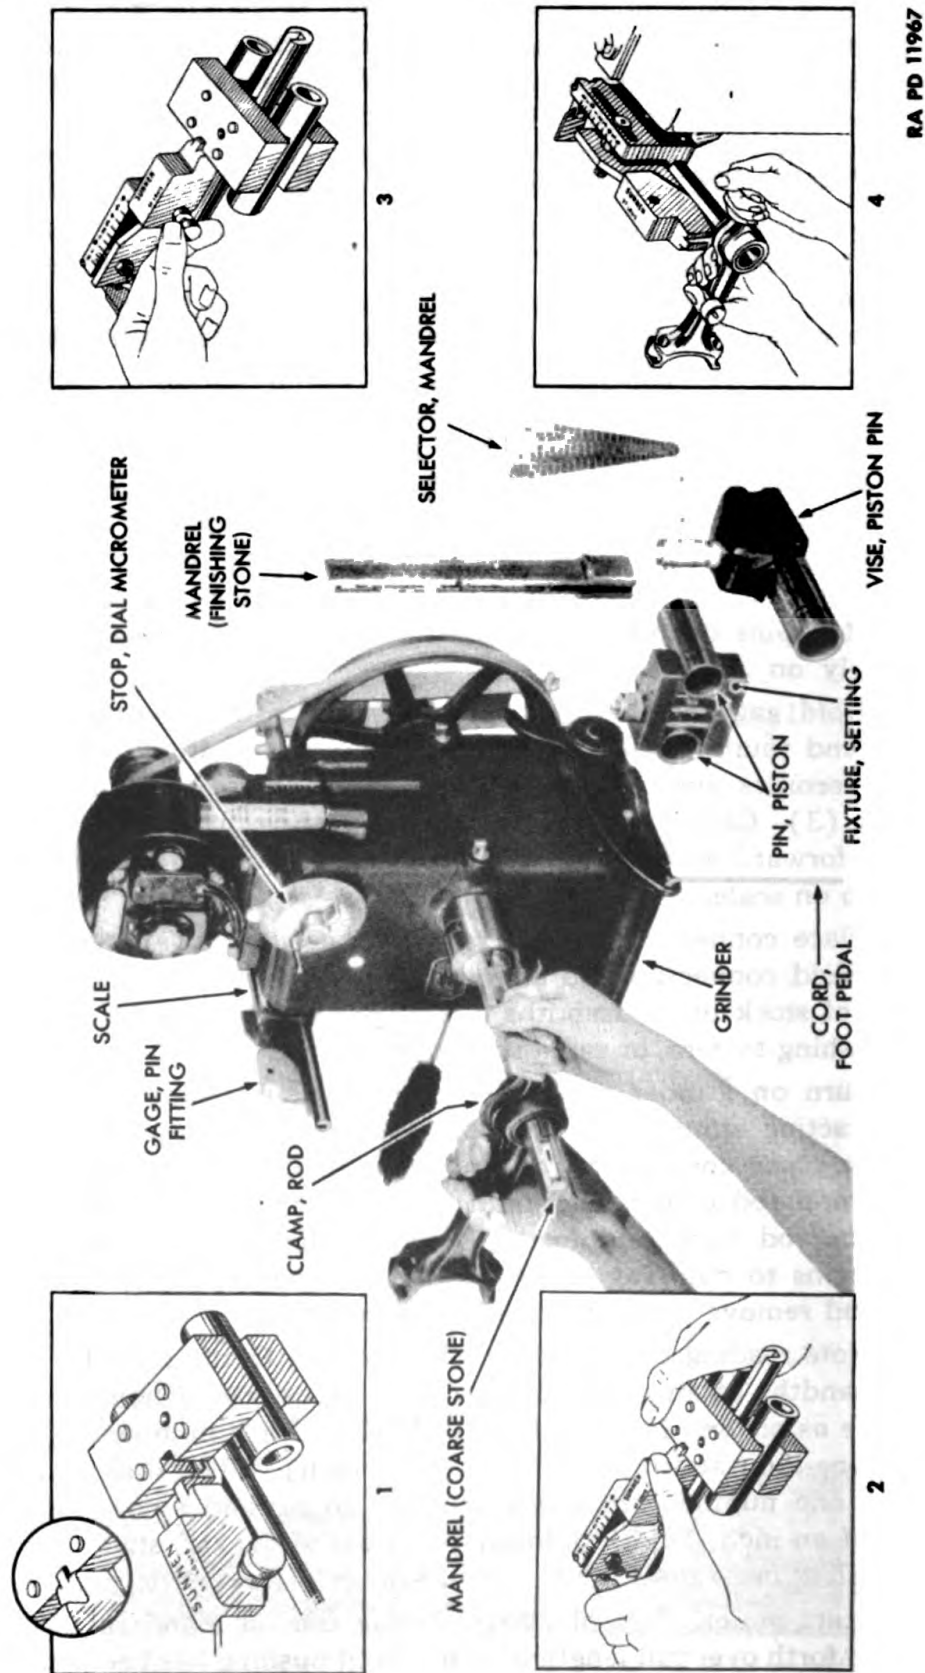

Figure 88—Honing a Piston Pin Bushing
74. FITTING PISTON PINS TO PISTON PIN BUSHINGS (fig. 88).